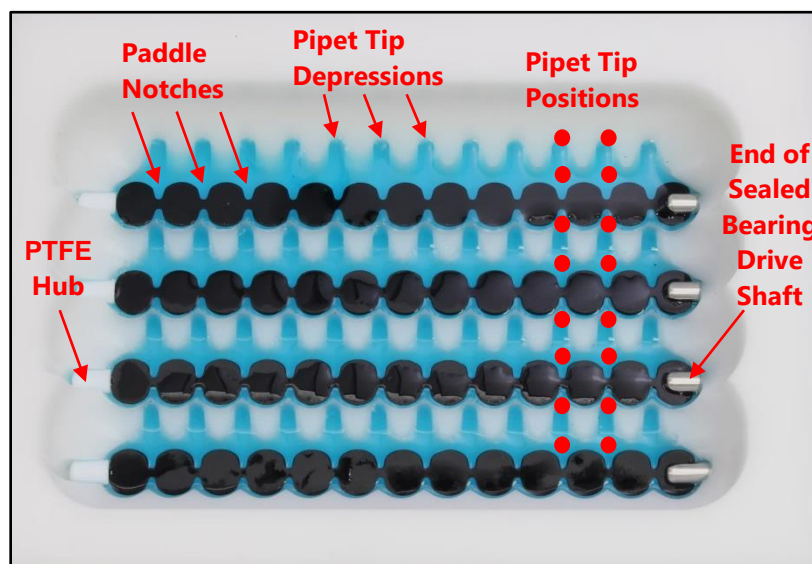

Figure 2. Close-up view of the Direct Drive Bubble Paddle Reservoir.
- 5) When using with automated liquid handlers, place the VP 769-1 Motor Base on the deck in a manner that allows for proper access of the VP 769-1 Reservoir by the pipet tips. Pipetting can be done with 8, 12 or 96 tips. Position the pipet tips in alignment with the notches in the Bubble Paddles and the depressions in the bottom of the Bubble Paddle Reservoir (see Figure 2, page 1).
- f) Gently place the hub end of the paddle into the contoured notch at the other end of the reservoir (see Figure 2, page one). Do not force into place. If necessary, grasp paddle near drive shaft and move slightly up and down until hub end falls into place